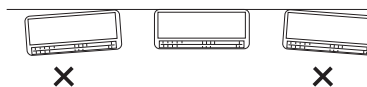

Fig. 3-39
- Double check with a carpenter's level or tape measure that the panel is level. This is important to install the unit properly. (Fig. 3-39)